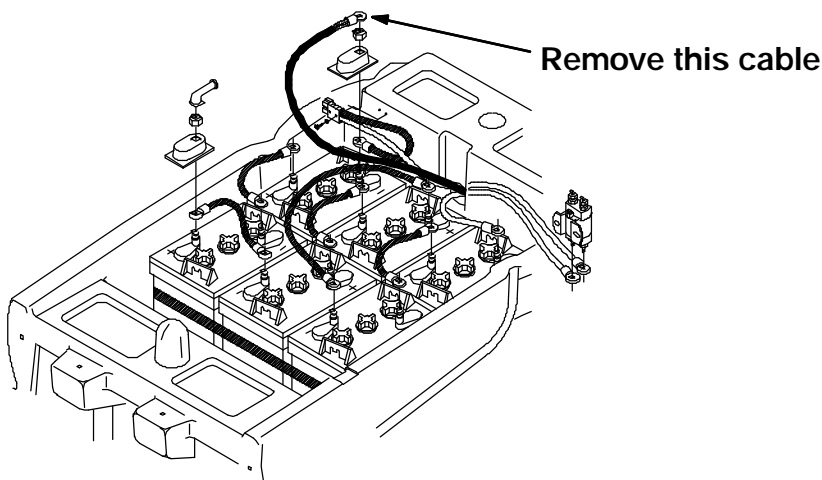

FIG. 1 - Battery Cable Disconnect
(Refer to FIG. 1)
3. Disconnect the negative battery cable from the battery nearest the back of the machine before servicing any electrical components. (Refer to FIG. 1)
(Refer to FIG. 1, 2, and 3)
4. Reconnect the negative cable to the far back battery. Turn the machine on. (Refer to Fig. 1)